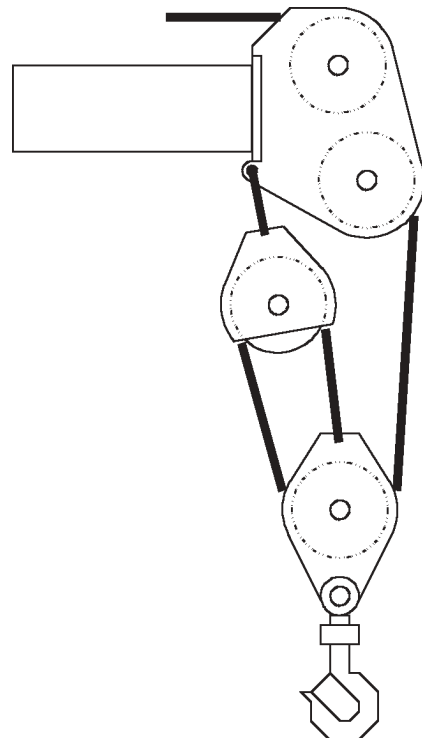
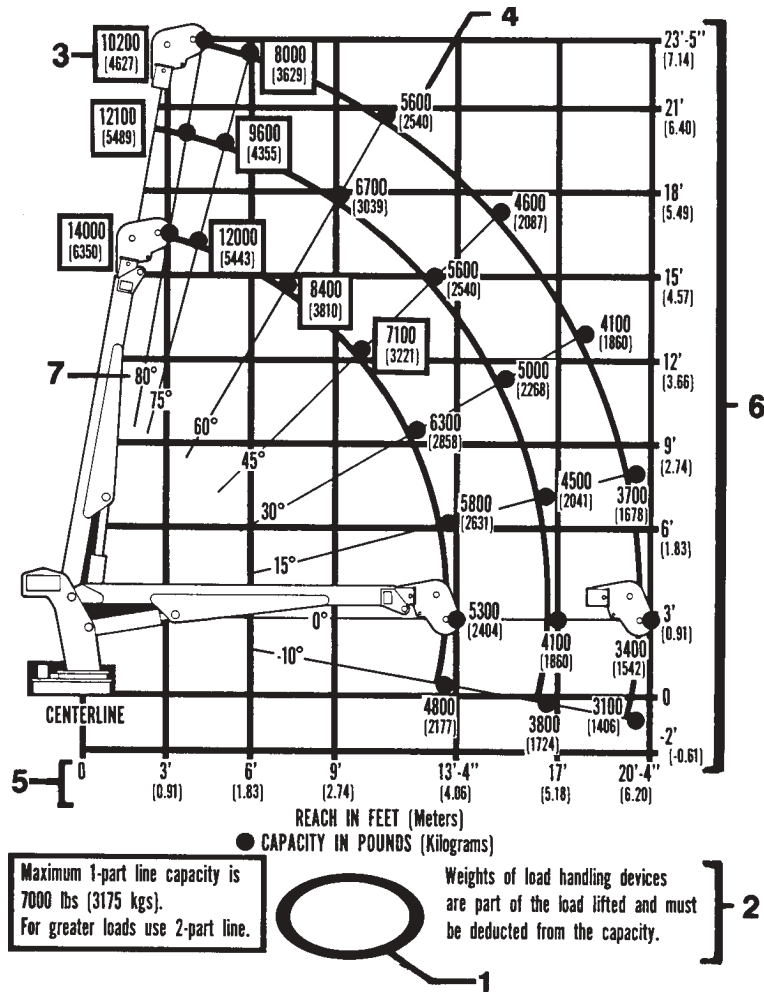

**FIGURE I-1.
FIGURE I-5. TELESCOPIC CRANE CAPACITY PLACARD
6. The actual distance used should be figured as the larger of items 4 and 5 above.
9. If a winch is used for the lift, make certain the load does not exceed the winch or winch line capacity. See Figures I-1, I-2 and I-3.
8. Make certain that 2-part line is used for any lift which requires 2-part line. See Figures I-1 and I-2. See Figure I-5 for reference.